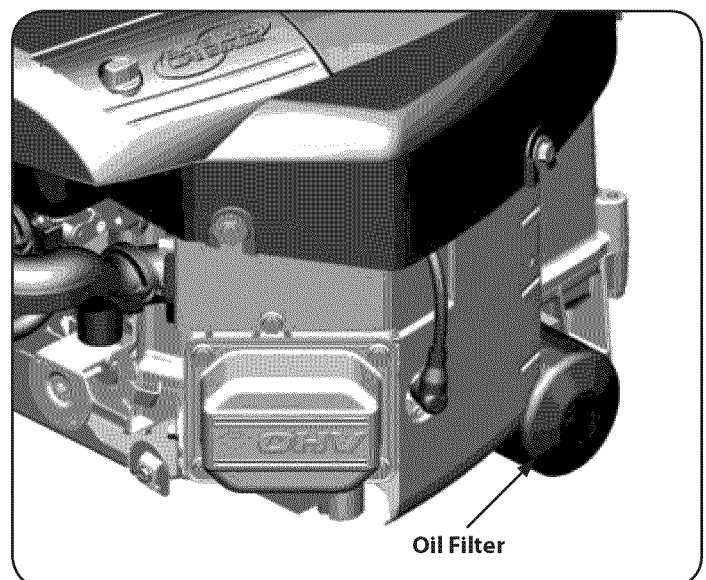

Figure 24
6. Clean the area around the oil filter. Place a container under the filter to catch any oil and remove the filter. See Figure 24.